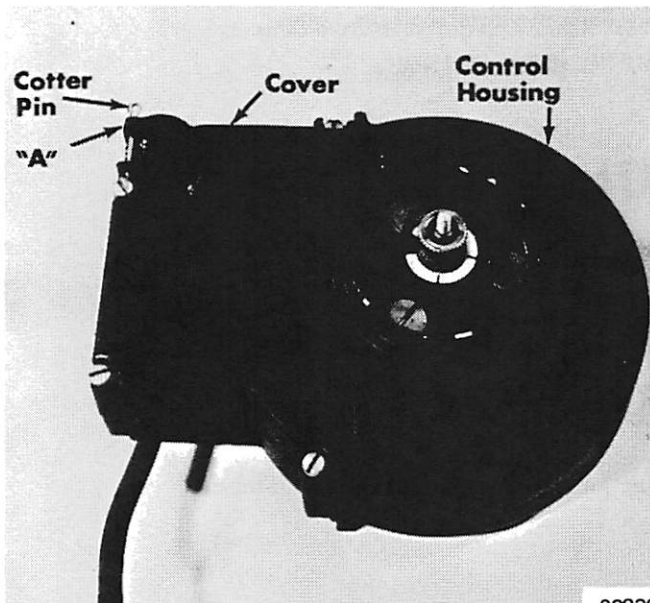

Figure 3. Cotter Pin and Cover Location
1. Remove cotter pins and covers. (Figure 3)